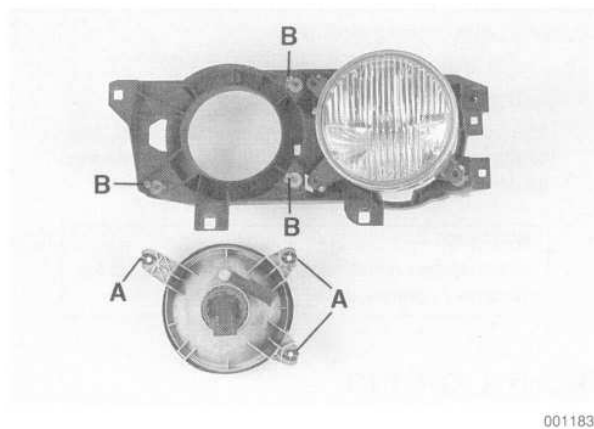

Fig. 5. Headlight lens unit retaining sleeves (**A**) and ball studs (**B**).
2. Using a hot air blower, heat plastic sleeves on front of lens unit and pry lens unit from headlight carrier. See Fig. 5.